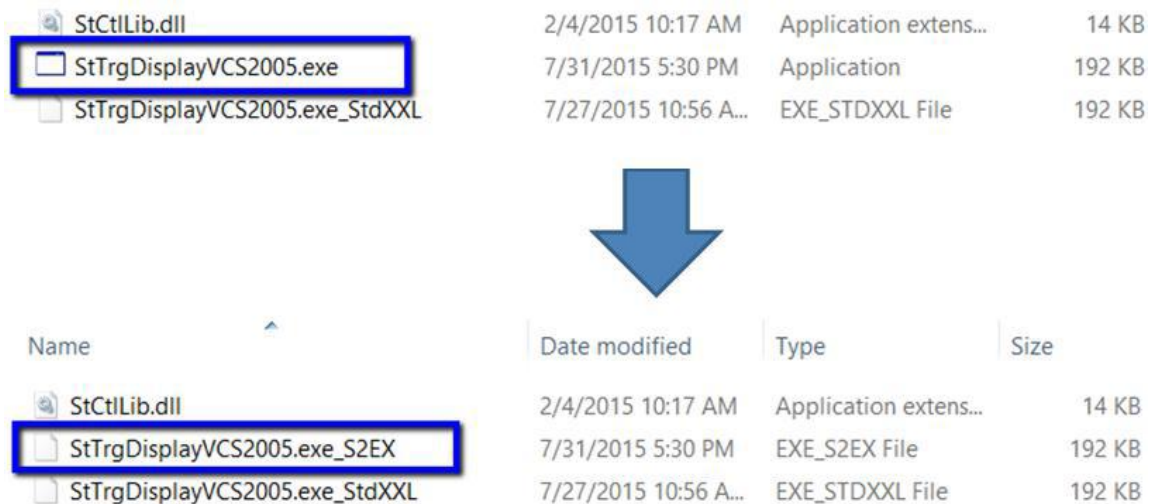

Figure 59 Exe File rename
62. Close the “Display Form Dialog Box” as Figure 59.
“StTrgDisplayVCS2005.exe”to“StTrgDisplayVCS2005.exe_S2EX” as below Figure 59.